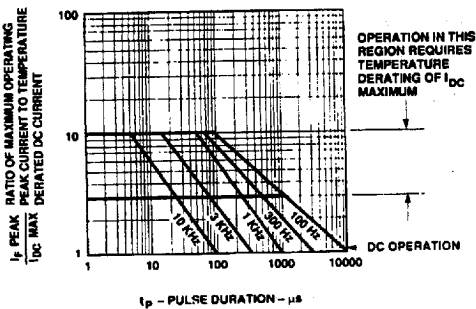

Figure 7. Maximum Tolerable Peak Current vs. Pulse Duration - HER.
5. See Figure 7 to establish pulsed conditions.